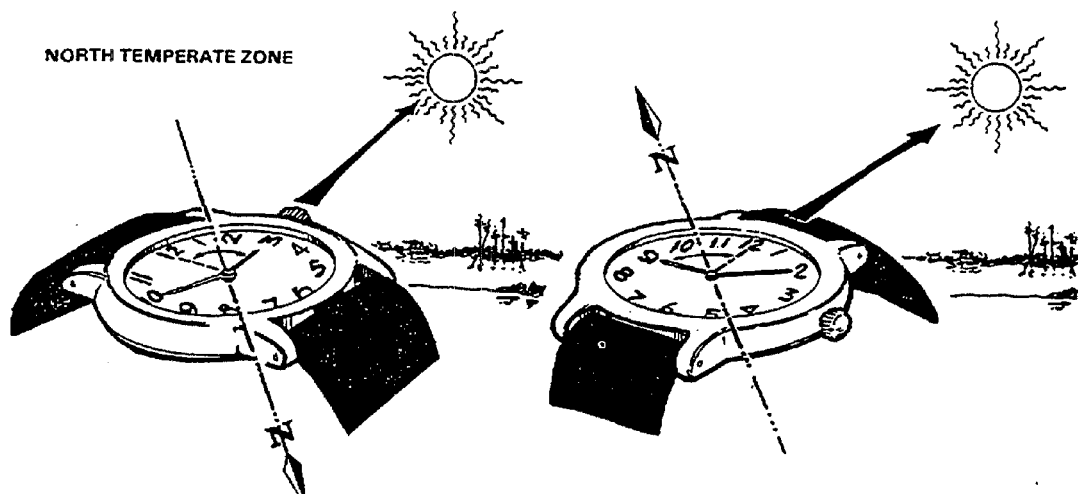

Figure C-7. Determining Directions by Using a Watch
(1) A watch can be used to determine the approximate true north and true south. In the north temperate zone only, the hour hand is pointed toward the sun. A south line can be found midway between the hour hand and 1200 hours, standard time. If on daylight saving time, the north-south line is found between the hour hand and 1300 hours. If there is any doubt as to which end of the line is north, remember that the sun is in the east before noon and in the west after noon.
(2) The watch may also be used to determine direction in the south temperate zone; however, the method is different. The 1200-hour dial is pointed toward the sun, and halfway between 1200 hours and the hour hand will be a north line. If on daylight saving time, the north line lies midway between the hour hand and 1300 hours (Figure C-7).
(3) The watch method can be in error, especially in the lower latitudes, and may cause circling. To avoid this, make a shadow clock and set your watch to the time indicated. After traveling for an hour, take another shadow-clock reading. Reset your watch if necessary.